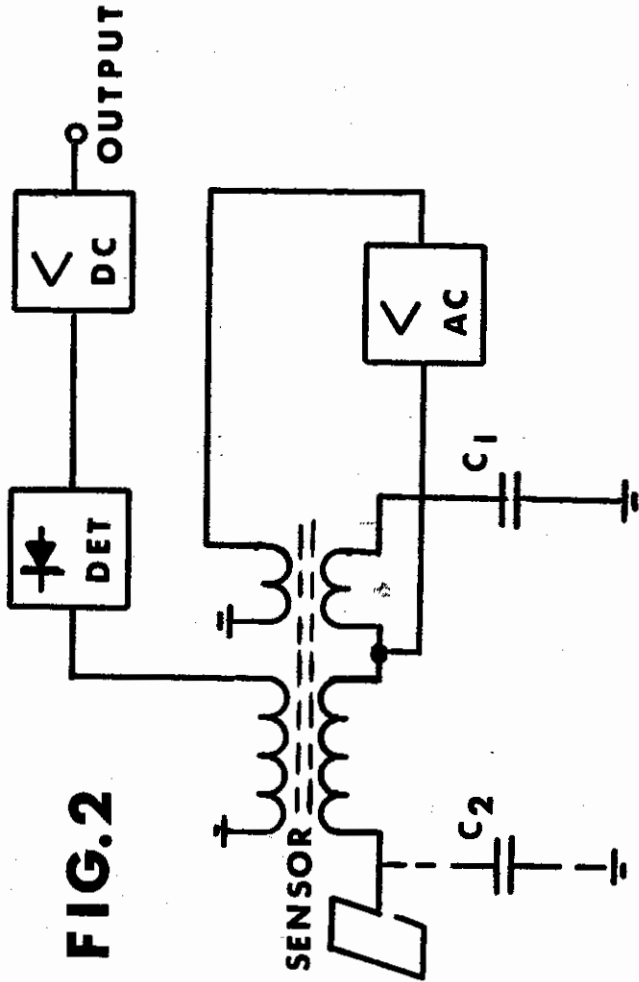
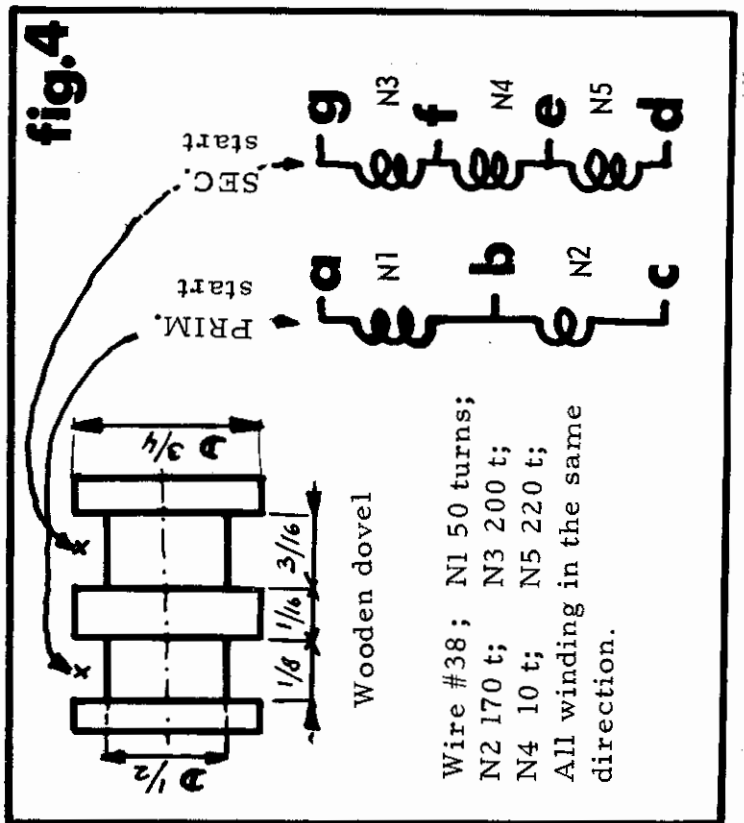

FIG.2
fig.4
Referring to the block diagram in Figure 2, note that a network consisting of radio transformer Tr and capacitors C1 and C2 is connected to the input of an amplifier, the output of which is fed
Winding data for the transformer are given in Figure 4. Care should be taken to connect the start (S), the tap (T), and the finish (F) of each winding precisely as indicated in Figure 2.